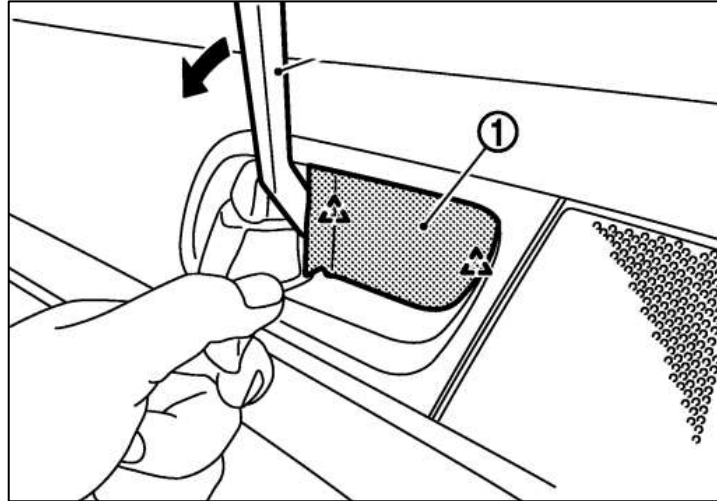

Figure 45
3. Behind the Door Handle, remove the small trim piece using a Trim Removal Tool. *Figure 45.*